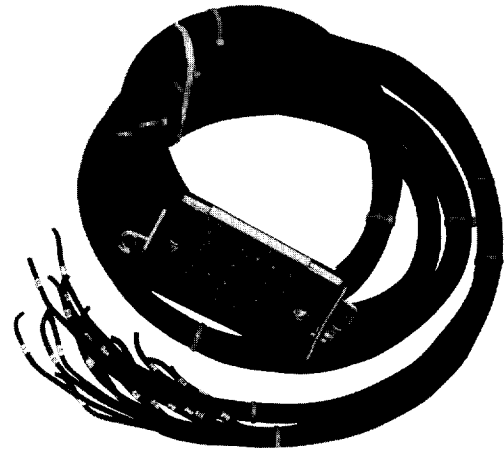

Fig. 14 Secondary Disconnect Assembly
- (a) Run secondary disconnect (Fig. 14) wiring harness through the secondary disconnect support and align disconnect with the number one (1) pin in the upper left position.
- (b) Mount secondary disconnect assembly to support with one (1) .25" (6.35mm) bolt, two (2) flat washers, one (1) lock washer, and one (1) nut in top and bottom of assembly.